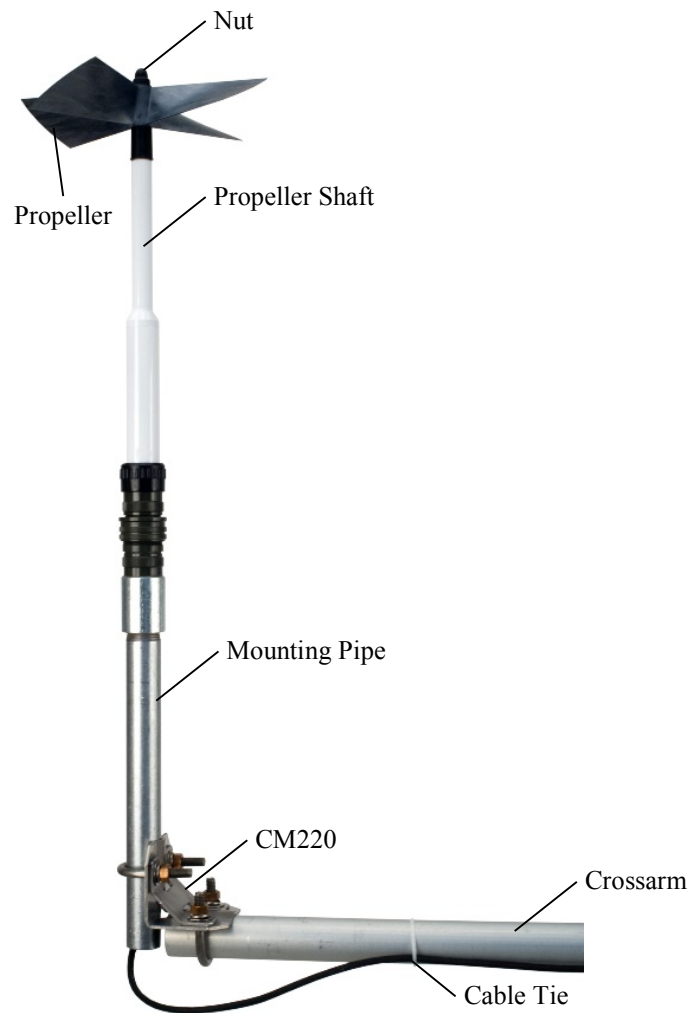
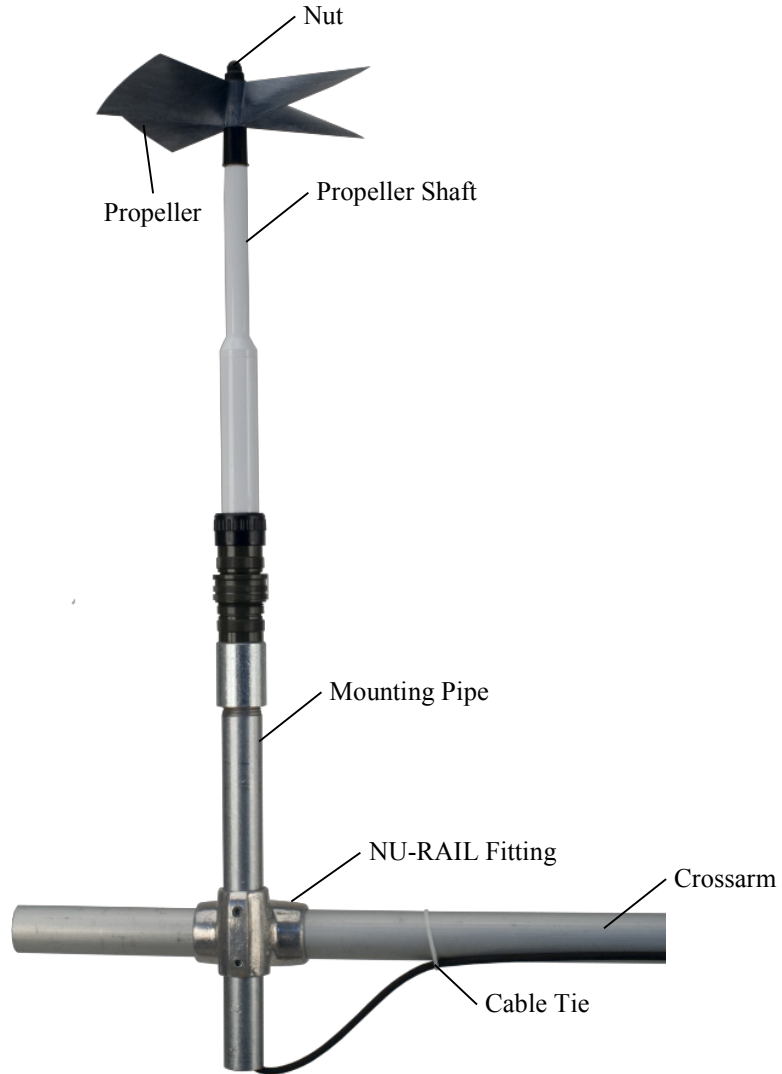

FIGURE 7-1. 27106T Mounted to a Crossarm via the CM220
FIGURE 7-2. 27106T Mounted to a Crossarm via a NU-RAIL Fitting
2. Remove the nut that is on the top of the propeller shaft (FIGURE 7-1 or FIGURE 7-2).
3. Place the propeller on top of the propeller shaft. Replace the nut and tighten to secure the propeller to the shaft (FIGURE 7-1 or FIGURE 7-2).
5. Secure the pipe to the CM220 mount (FIGURE 7-1) or 1049 NU-RAIL (FIGURE 7-2).